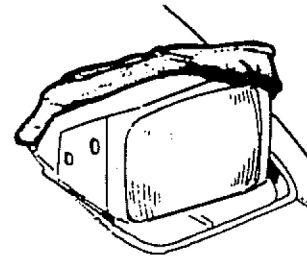

figure 18
- 3.2 Stretch the elastic of the "shower cap" cover over the rear edge and the corners of the headlight unit. Making sure that the vinyl fully overlaps the rolled sheetmetal edges to allow free movement of the headlight door, stretch the cover over the front edge and corners as shown in figure 18. Be sure the headlight's face is exposed. When properly installed, the headlights will raise and lower without interfering with the normal movement of the headlights, and the headlight covers will not shift from their original position.